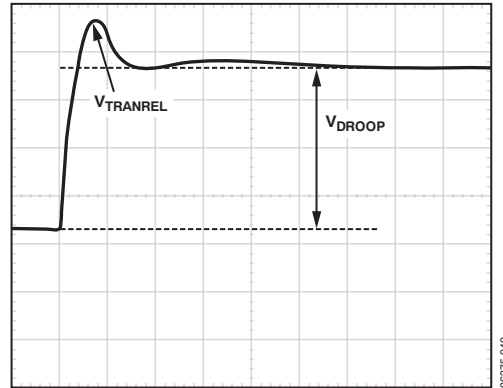

Figure 40. Transient Setting Waveform, Load Release
3. For load release (see Figure 40), if $V_{TRANREL}$ is larger than the value specified by IMVP-6+, a greater percentage of output capacitance is needed. Either increase the capacitance directly or decrease the inductor values. (If inductors are changed, however, it will be necessary to redesign the circuit using the information from the spreadsheet and to repeat all tuning guide procedures).